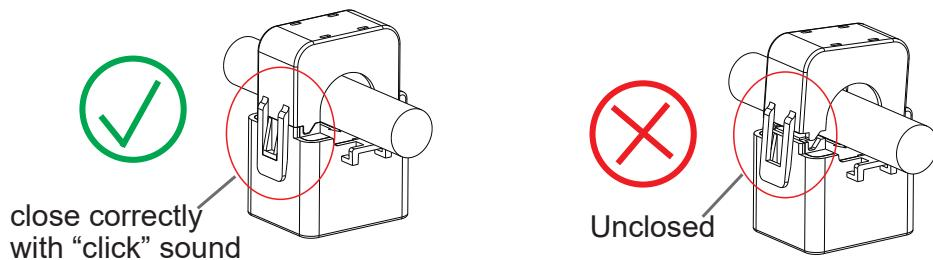

Figure 30: Check the CT is closed correctly
4. Fit the L1 and L2 CTs around their respective conductors, close CTs with hearing “click” sound, check the CT is closed correctly. (Figure 30)